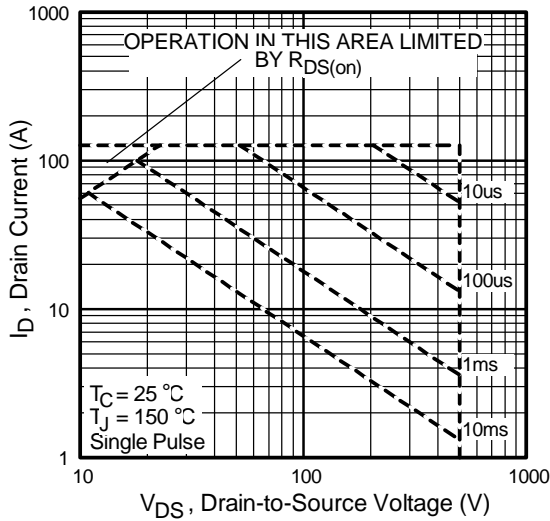

Fig 12. Maximum Safe Operating Area
- ② Starting $T_J = 25^\circ\text{C}$, $L = 1mH$, $R_G = 25\Omega$, $I_{AS} = 31A$ (See Figure 12).
- ③ $I_{SD} = 31A$, $di/dt \leq 422A/\mu s$, $V_{DD} \leq V_{(BR)DSS}$, $T_J \leq 150^\circ\text{C}$.
- ④ Pulse width $\leq 300\mu s$; duty cycle $\leq 2\%$.
- ⑤ $C_{oss\ eff.}$ is a fixed capacitance that gives the same charging time as C_{oss} while V_{DS} is rising from 0 to 80% V_{DSS} .